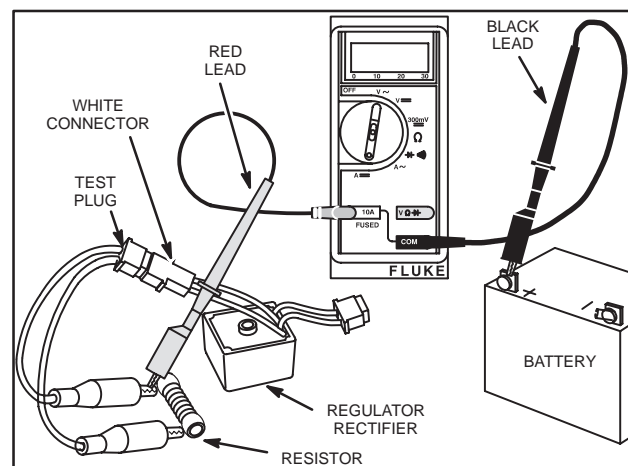

Fig. 32 – Testing Lighting Circuit
4. Connect test harness to output connector and attach alligator clips to 1 ohm 20 watt resistor as shown in Fig. 32.